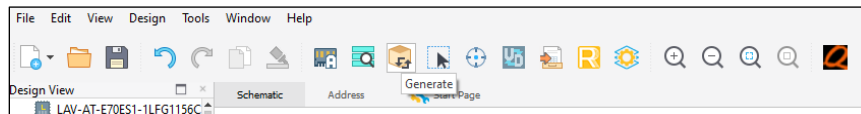

Figure 9.5. Generate again is any IP is updated
- Click the **Generate** button as shown in Figure 9.5. Ensure that there are no errors.